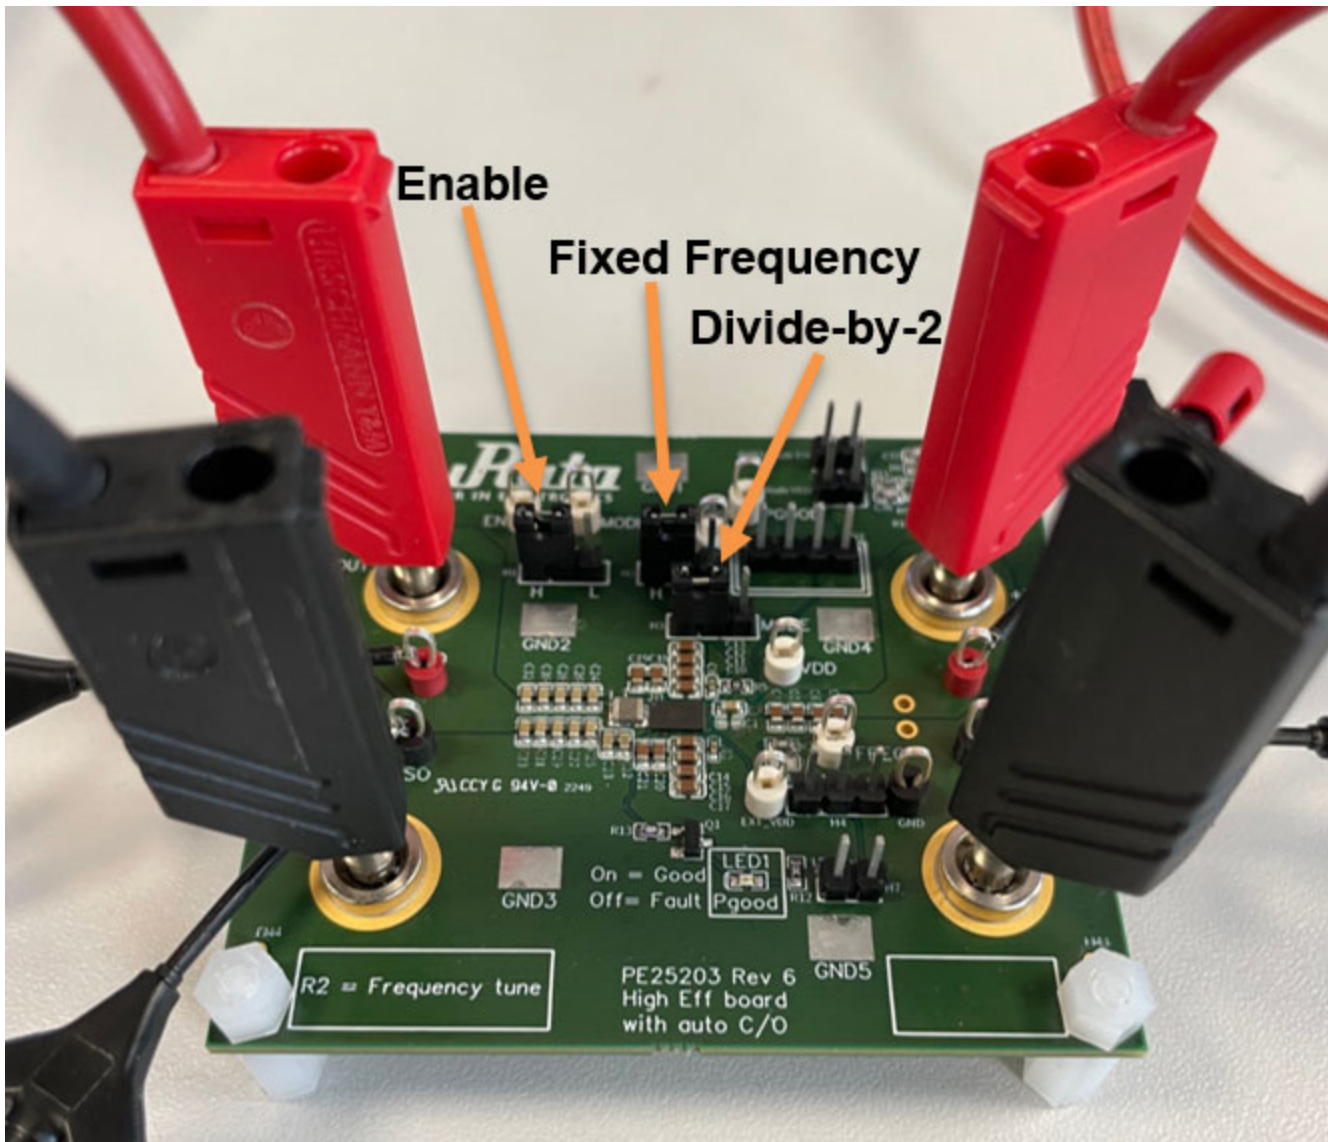

Figure 6. Jumper Configuration
1. Before you power-up the EVK, set the H1 and H2 PCB headers by fitting the jumper sockets. In Figure 6, H1 is in the enable position and H2 is in fixed-frequency mode.
2. H3 sets the EVK division ratio. In Figure 6, H3 is set to divide-by-2 mode, and all the other extra functions are NOT implemented. If the H3 header is left unused, the EVK powers up in divide-by-3 mode by default. Do not leave H3 without a jumper in the HIGH or LOW position.